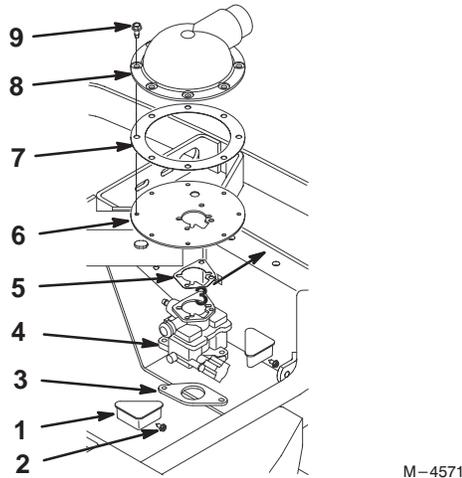

Figure 5
1. Install the two triangular plugs from the kit into the air ducts on the top of the blower housing. Start the two thread-forming screws from the kit into the holes in the front of the air ducts. Tighten the screws until the plugs are locked into place (Fig. 5).
2. Install the new carburetor gasket onto the intake manifold. Make sure all holes are aligned and open. A dab of gasket adhesive may be used to keep it in position (Fig. 5).
3. Reconnect the choke link, throttle link, and throttle dampening spring into the corresponding levers of the new carburetor (Fig. 5).
4. Set the carburetor into position on the gasket/intake manifold and install the two mounting screws saved in step 4 of Removing Carburetor. Lightly finger tighten the screws (Fig. 5).
9. Place the new air cleaner base gasket from kit on top of the carburetor (Fig. 5).
11. Position the new adapter plate over the carburetor gasket and pull the breather tube through the corresponding hole until the plate is seated between the flanges. The end of the breather hose must point into the carburetor throat. Install the three mounting screws removed in step 1 and torque them to 9.9 N•m (88 in. lb) (Fig. 5).
12. Position the adapter gasket and air intake adapter onto the adapter plate, so the hose connection neck is facing straight back in the engine compartment. Secure with the seven M6 thread-forming screws. Torque the screws to 10.7 N•m (95 in.-lb.) (Fig. 5).